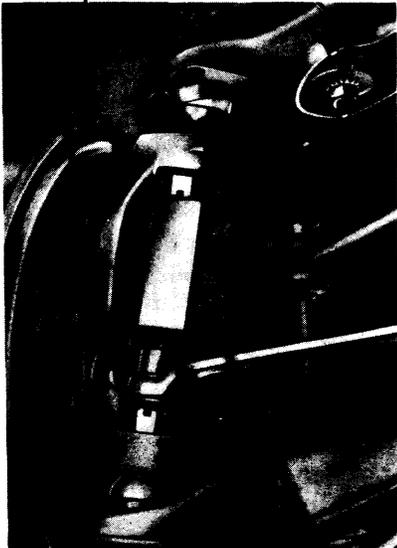

FIG. 2—Loosening Ball Joint Stud
tool T57P-3006-A, and position the tool as shown in Fig. 2. **The tool should seat firmly against the ends of both studs, and not against the lower stud nut.** It may be necessary to remove the cotter pin from the lower ball joint stud, if the cotter pin prevents the tool from seating on the lower stud.
6. Position a box wrench over the lower end of tool T57P-3006-A and position the tool as shown in Fig. 2. **The tool should seat firmly against the ends of both studs, not against the stud nuts.**